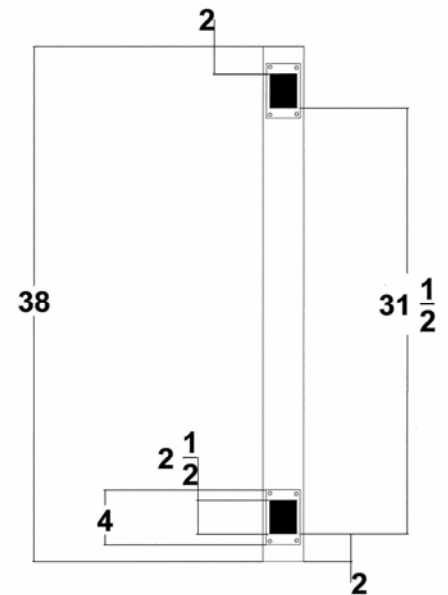

Figure 1: 36" Rail Base Bracket Installation
3. For the 36" Rail: Measure up 2 inches from the floor surface to locate the bottom rail base brackets. Secure the mounting brackets with screws through the vinyl post. Measure up an additional 31½ inches to locate and install the top rail base brackets (see Figure 1). Repeat for each post.